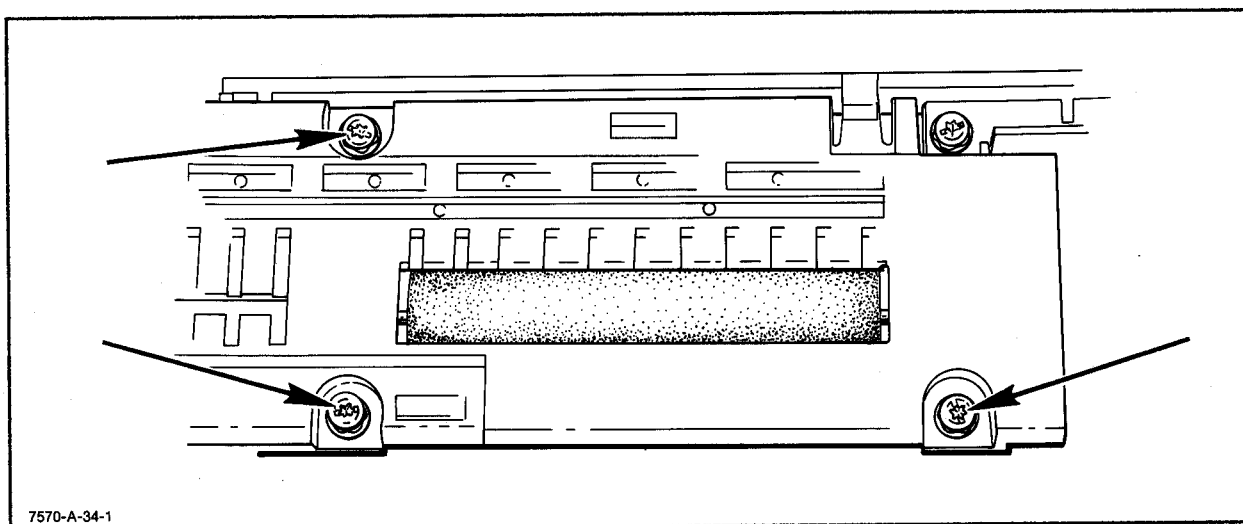

Figure 6-31. Platen Mounting Screws
- g. Remove the three #20 TORX machine screws securing the right-hand end of the center platen. See Figure 6-31.